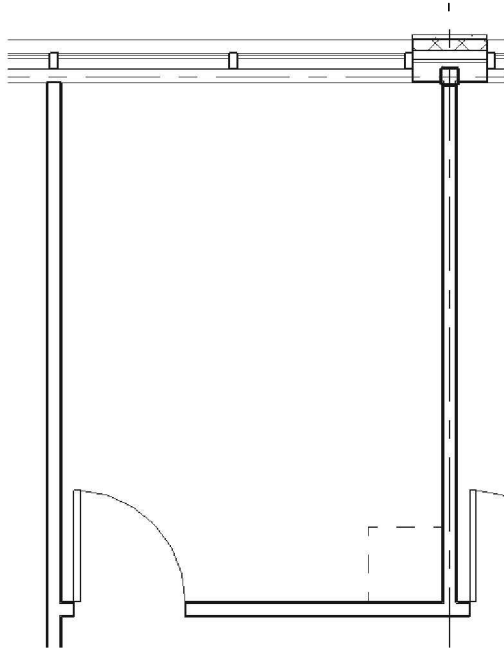

FIGURE 11-2.2 First base cabinet placed
5. Place the cabinet as shown in **Figure 11-2.2**.